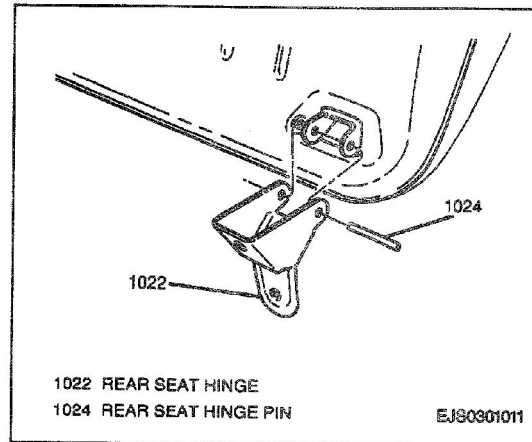

Figure 16—Rear Seat Hinge
3. One clip and pin from each rear seat hinge and hinges from seat (Figure 16).
6. Rear seat hinges to seat; secure each with one pin and clip (Figure 16).